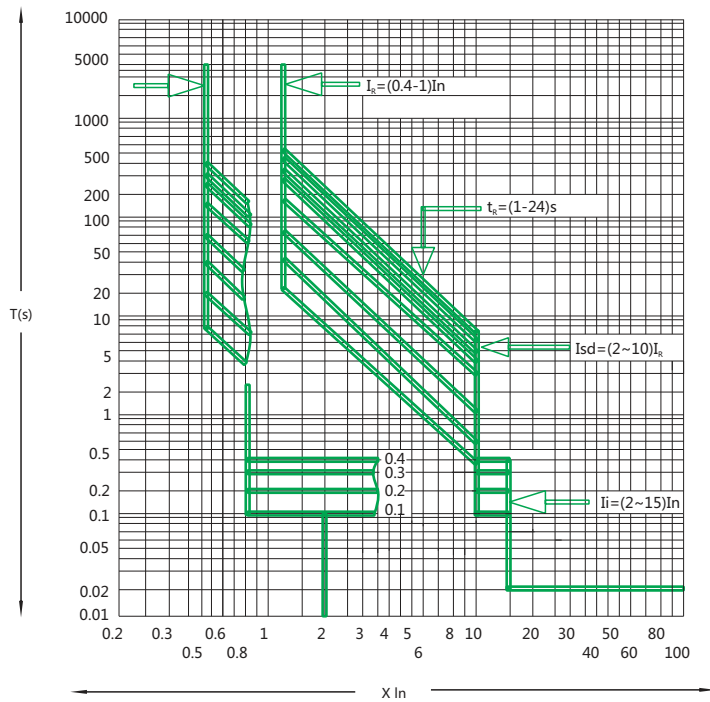

Fig.1 Overcurrent protection curves
- ① The detail information of external N-pole transformer is seen in P41.
- ② The N-pole current transformer is specially configured by the company, and the default leading wire length is 2 meters.
- ③ When adopt 3PT type, ground fault protection can only apply to balance load application, if it is imbalance load, the ground fault function should be closed or setting value must be upper on imbalance current, or the intelligent controller will misoperate.
- ④ When adopt (3P+N)T type, the maximon distance between transformer and circuit breaker should be within 5 meters. The loading wire of transformer exceed 2 meters should sepciatly noted when order.
- Fig.1 displays a fault at the load side of the NXA circuit breaker. The fault current only flows through one phase. If the sum of three phase of current vectors detected by four current transformers is higher than the set threshold value, an intelligent control unit will activate the difference type earth fault protection function. The type of earth fault protection achieves the earth fault protection at the load side.